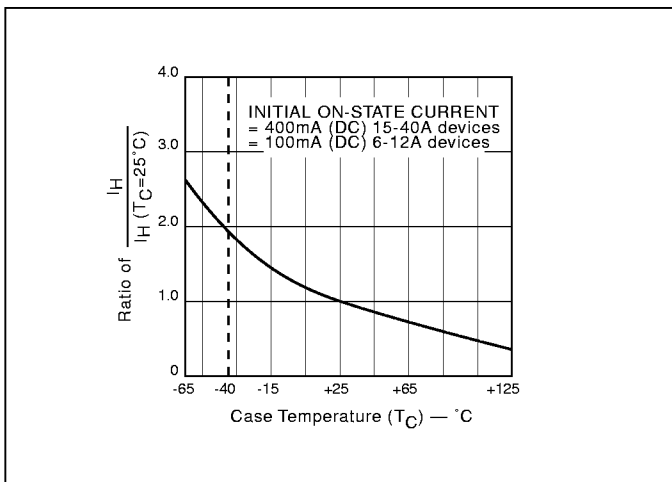

Figure 4.9 Normalized DC Holding Current vs Case Temperature
- See Figure 4.9 for  $I_H$  vs  $T_C$ .